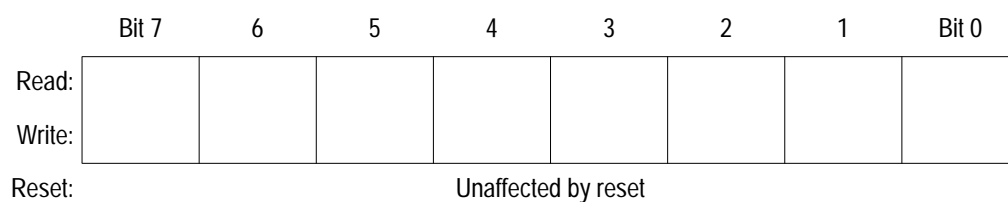

Figure 3-3. Index Register (X)
In the indexed addressing modes, the CPU uses the byte in the index register (X) shown in Figure 3-3 to determine the conditional address of the operand. See 11.3.5 Indexed, No Offset, 11.3.6 Indexed, 8-Bit Offset, and 11.3.7 Indexed, 16-Bit Offset for more information on indexed addressing.